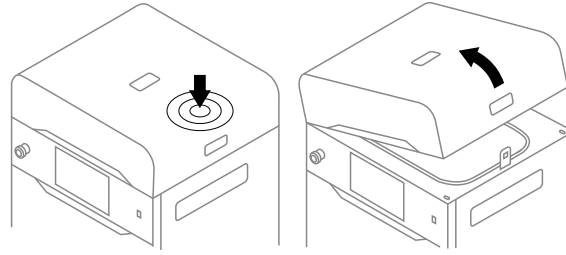

Fig. 5.3 Lifting the printer lid.
8. Push on the lid and pull it up using the lid handle (fig. 5.3).